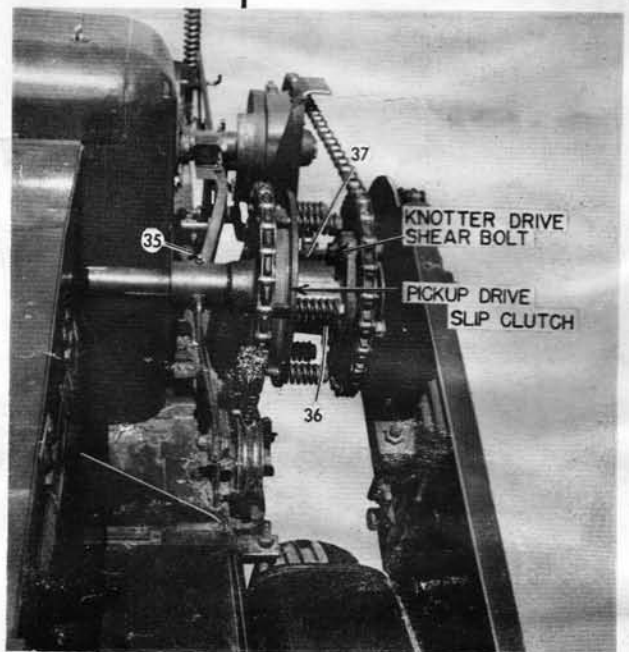

FIGURE 8
35. Figure 8—Support Bearing
36. & 37. Figure 8—Pickup drive over-riding clutch pins. Oil sparingly with light oil.